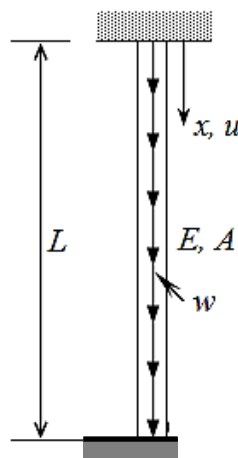

Figure 1
- (1). (a). (i). Derive the governing differential equation for the linear elastic bar problem shown in **Figure 1** where E : elastic modulus, A : cross-sectional area, w : uniformly distributed load per unit length. State clearly where the three basic equations in theory of elasticity have been used.